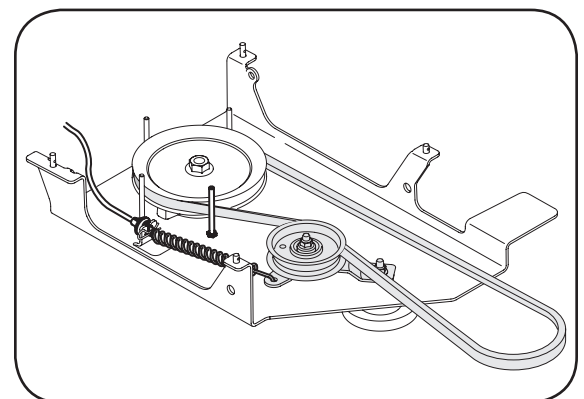

Figure 4-4
2. Refer to Fig. 4-4 for correct position.